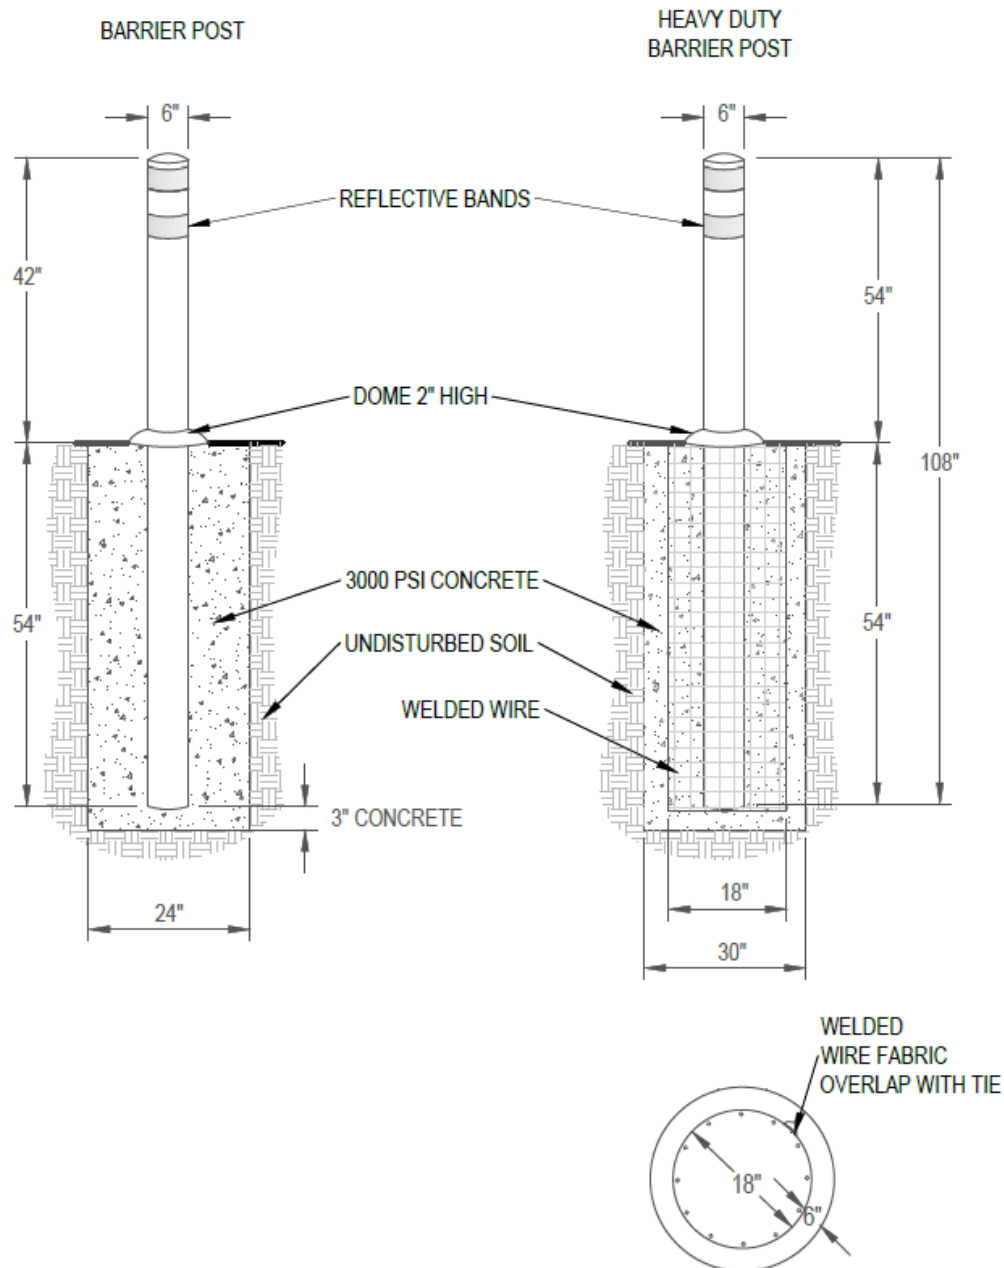

Figure 40. Barrier Post Dimensions and Installation Details (STD-D-3290)
Customers are required to install barrier posts (bollards) around all electrical equipment (such as transformers, switchboards, CT cabinets, or sectionalizing cabinets) in areas where that equipment is exposed to vehicle traffic. PGE must approve the barrier post design and location. Figure 40 shows barrier post dimensions and installation details.
- Paint all barrier posts safety yellow and apply two 3"-wide reflective bands near the top of each post, as shown in Figure 40.